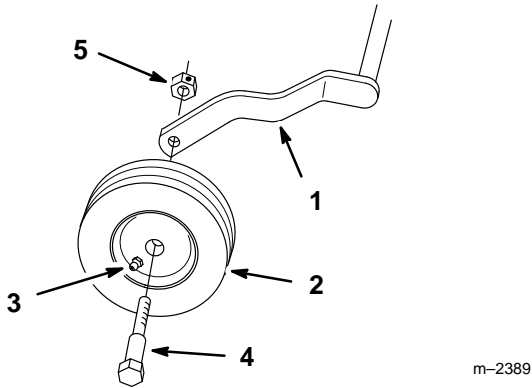

Figure 1
1. Attach gage wheels to the outside of arms on rear carrier assembly. Grease fitting on wheel must face out (Fig. 1).
2. Secure with shoulder bolt and 3/8" lock nut, with internal locking patch on threads (Fig. 1).